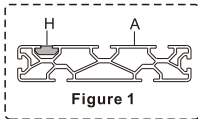

Figure 1
- Insert 2 Connecting Bar(H) to the top slot of the top rail as shown in the Figure 1.